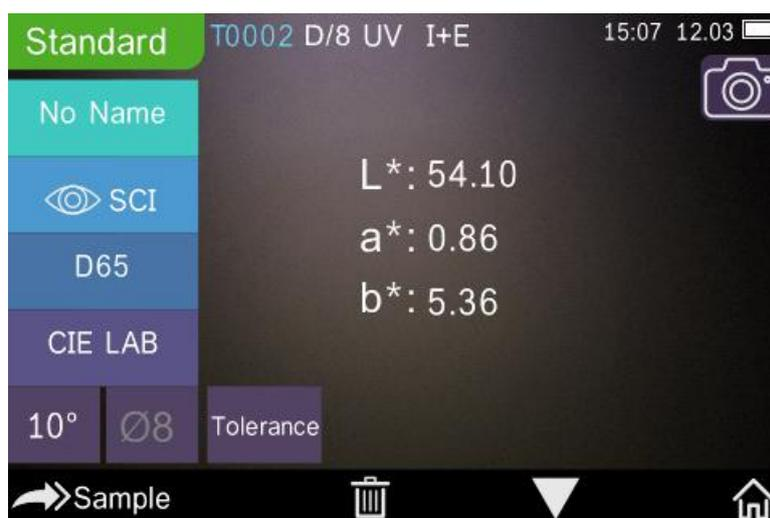
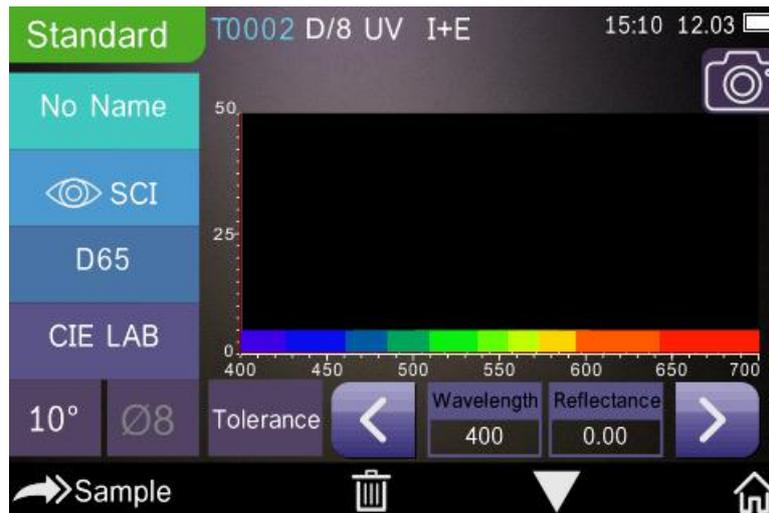

Figure 10 Standard Measurement
Figure 11 Reflectance of Standard Measurement
Please enter “Standard Measurement” interface to perform measurements as shown in Figure 10.
Put the measuring aperture close on the standard sample, press “Testing” key. There is a “Beep” voice, and the LED indication light will turn to green from yellow, then it shows measurement finished as shown in Figure 10 and in Figure 11.
- 15) Wavelength switch button: As shown in Figure 11, click  or , the wave length and reflectance of the current sample will switch as range of 10nm interval.